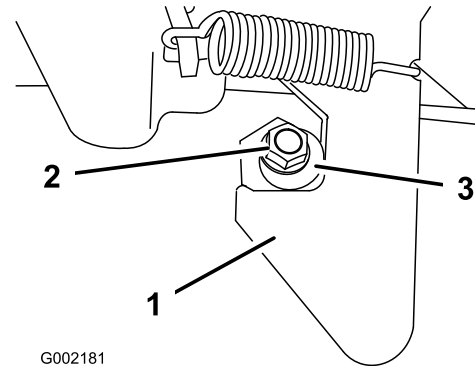

Figure 74
- Loosen the locknut on the end of the latch post (Figure 74).
- Rotate the latch post clockwise until it is snug against the hook portion of the latch (Figure 74).